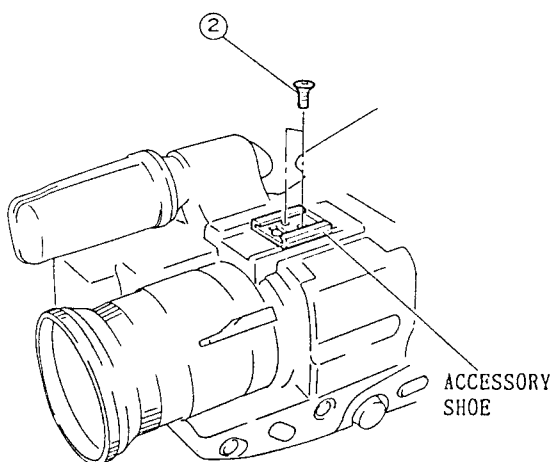

Fig. 2-4
2. Remove two (2) screws holding the accessory shoe. (See Fig. 2-4)